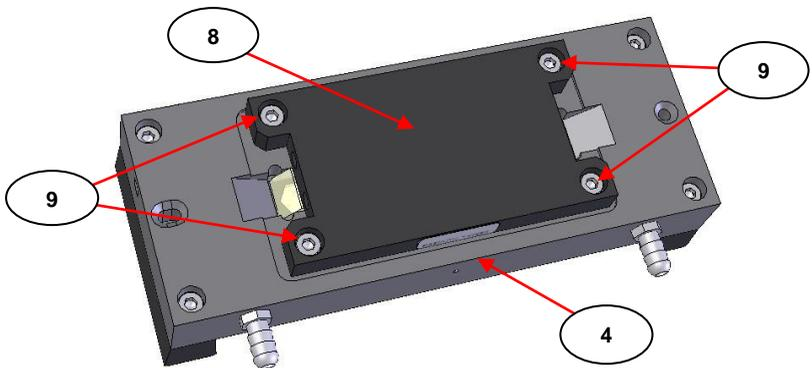

Fig 6. Underside of Water Heated Trough Top Plate Assembly
- 1) Lay the Top Plate assembly on to a clean workspace area and proceed to remove the four M3 x 10mm cap head screws (9) from the lower thermocirculating plate (8) using the 2.5mm A/F Allen key supplied. Turn the screws (9) anticlockwise to remove. (See Fig 6.)
- 4) Carefully replace the lower thermocirculating plate (8) over the lead pad (10) and crystal (7) and refit the four screws (9). Ensure that the lead pad (10) and crystal (7) are not dislodged from their central positioning. (See as **Fig 6.**)
- 5) Exert a pressure at the middle of the lower thermocirculating plate (8) with your thumb and tighten the four screws (9) a little at a time, in a rotational sequence, to apply the pressure to the lead pad (10), crystal (7) and Kalrez gasket (11) assembly. The objective is to bring the lower thermocirculating plate (8) into contact evenly and levelly to the main body plate (4) for tightening of the components together to avoid any sample fluid leakage in operation.